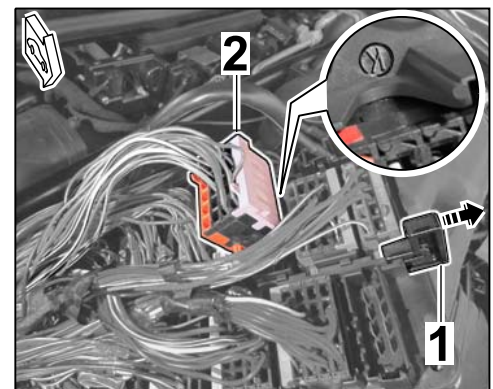

Figure 15
- 3.3.1 Pull out locking mechanism ⇒ *Figure 15-1* (⇒ *Figure 15-arrow*).
The connector is identified by the letter K (Fig. 15 -inset-) on the side of the relay/fuse carrier.